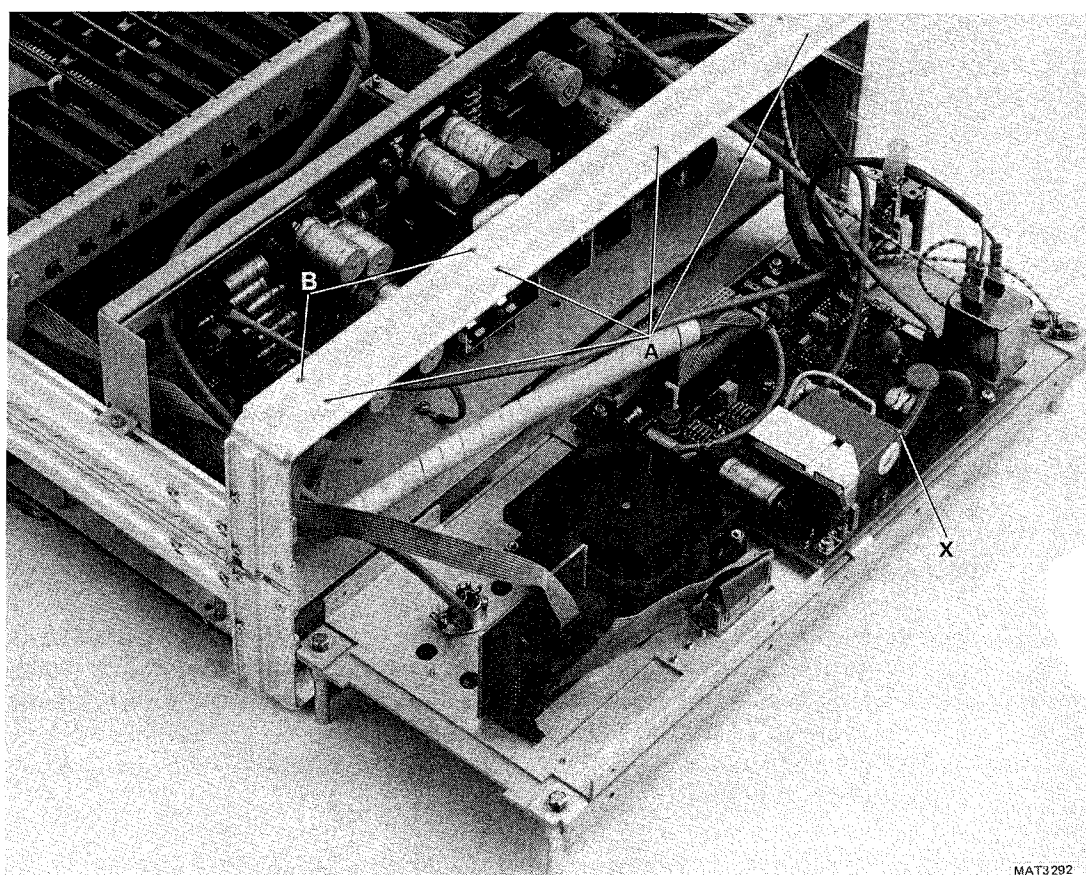

Figure 10.1 Removing the rear panel.
To avoid shocks the high voltage capacitor C4616 on POWER 2 unit A20 at the inner side of the rearpanel has to be discharged. This can be done by connecting a 1 Mohm resistor from the node of capacitor C4616 and the EHT transformer D4601 to the chassis of the oscilloscope. This node is marked with an X in figure 10.1.
- Unscrew the four screws marked with A in figure 10.1.